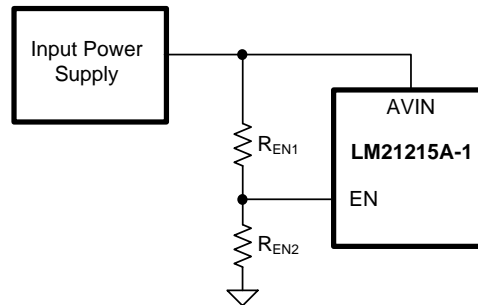

Figure 30. Input Voltage Turn-on Setpoint Configured by Enable Resistor Divider
The LM21215A has a built-in undervoltage lockout protection circuit that prevents the device from switching until the input voltage reaches 2.7 V (typical). The UVLO threshold has 200 mV of hysteresis that prevents the device from responding to power-on glitches during startup. As mentioned above, adjust the turn-on threshold of the supply by using the precision enable pin and a resistor divider network connected to VIN. Please refer to Figure 30 of the *Detailed Design Procedure* section for more detail.
The Enable (EN) pin of the LM21215A allows the output to be toggled on and off. This pin is a precision analog input. When the voltage exceeds 1.35 V, the converter begins to regulate the output voltage as long as AVIN has exceeded the UVLO threshold voltage of 2.7 V. There is an internal pullup current source of 2 μA connected to EN. If enable is not used, the device turns on automatically. Also, if EN is not toggled directly, the device can be set to turn on at a certain input voltage higher than the internal UVLO rising threshold. This is achieved with an external resistor divider from AVIN to EN and EN to AGND as shown in Figure 30.